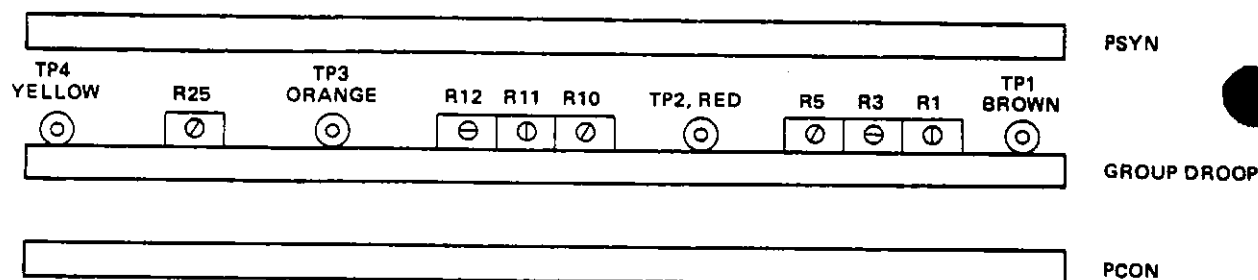

Figure 2.12. Test Point and Potentiometer Locations
procedure is required when replacing a Group Droop module as well as for initial installation. For test point and potentiometer locations refer to Figure 2.12.
(4) Adjust R1 and R5 (see Figure 2.12) fully in the clockwise direction.
(5) Adjust R12 and R10 (see Figure 2.12) fully in the counterclockwise direction.
(7) Install the module in the PGEN and set the PGEN DROOP thumbwheels to all zeroes (0's) and the TRANSMITTER DRIVE ADJUST to zero.